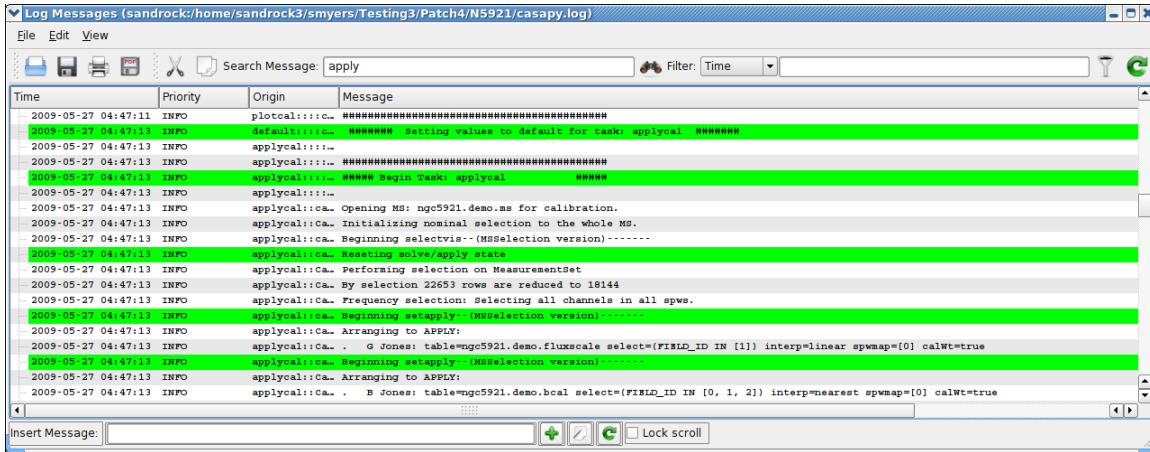

Figure 1.5: Using the Search facility in the casalogger. Here we have specified the string ‘plotted’ and it has highlighted all instances in green.
- **Search** — search messages by entering text in the Search window and clicking the search icon. The search currently just matches the exact text you type anywhere in the message. See Figure 1.5 for an example.